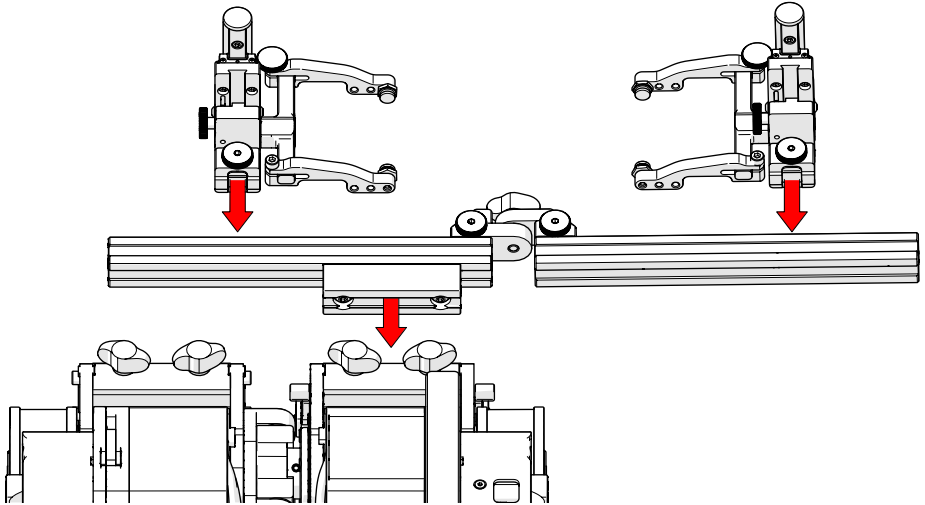

Fig. 270 - Configure assembly and mount to NAVIC
1. Disassemble the pivoting probe holder frame to achieve the setup shown (Fig. 270). Ensure proper placement of the frame bar with attached mounting point in relation to the **NAVIC**.